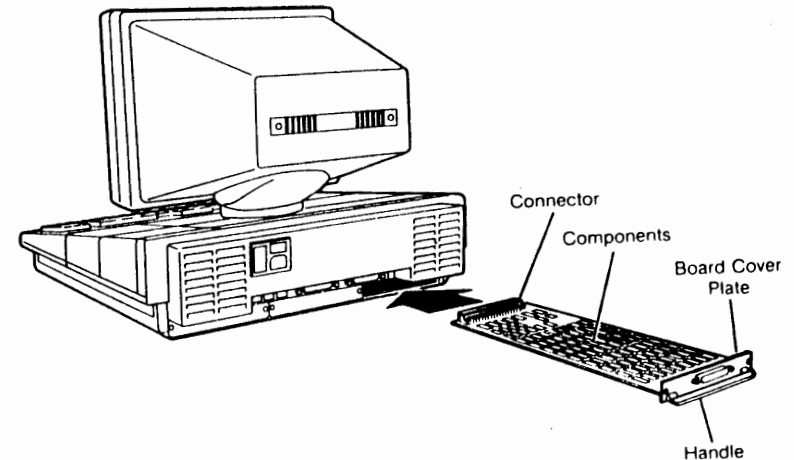

Figure 2 Inserting the Ethernet Board
- 4 With the edge connector entering the slot first, component side up, fit the board edges into the grooves in the side tracks of the expansion slot, and slide the board into the slot (see Figure 2).